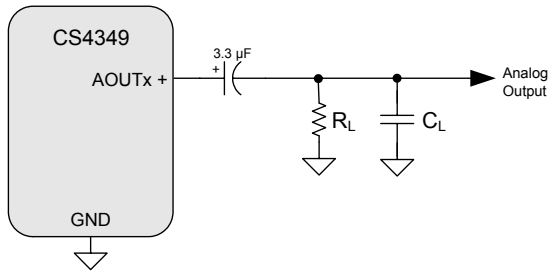
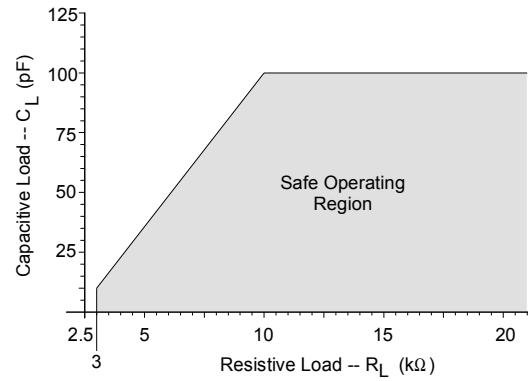

Figure 1. Output Test Load
Figure 2. Maximum Loading
4. RL and CL represent the minimum resistance and maximum capacitance required for the CS4349's internal op-amp to remain stable. See Figure 1 and Figure 2 for more details.